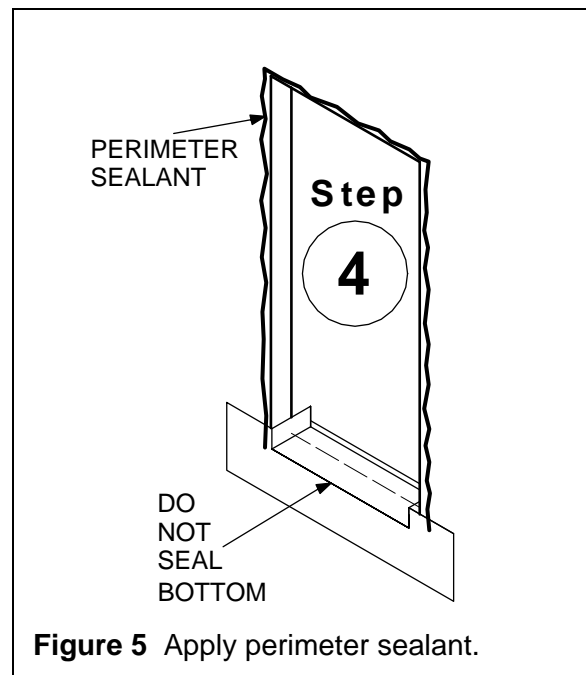

Figure 5 Apply perimeter sealant.
Step 4. Apply seal around perimeter opening or to backside of door fin at top sides. Do not seal along bottom (see Figure 5).